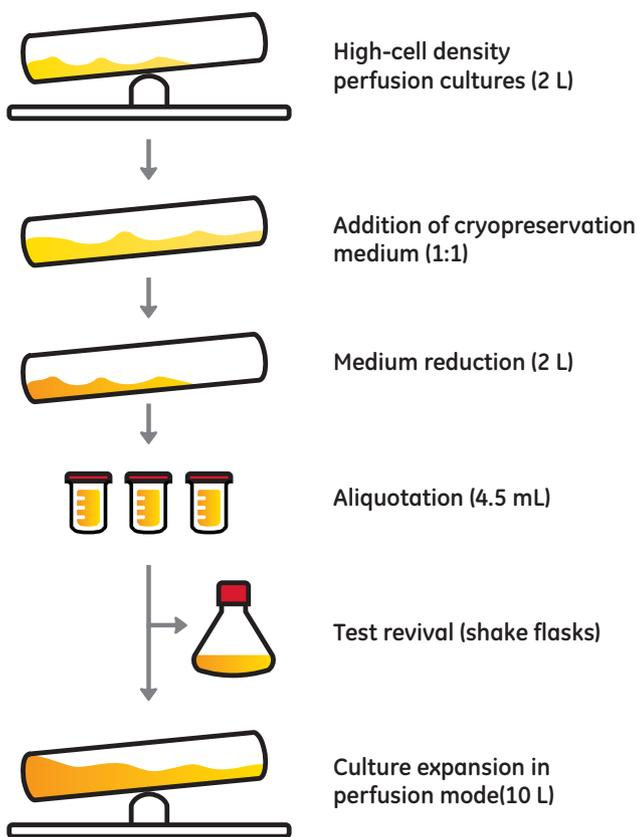

Fig 3. Overall experimental set-up.
The overall experimental set-up, including both cell bank and seed culture generation, is provided in Figure 2 and Figure 3. High-density cell banks were created from Chinese hamster ovary (CHO) DG44 cells* in ActiCHO™ P medium. CHO cells were grown in a disposable Cellbag™ using the ReadyToProcess WAVE 25 system in perfusion mode (1). Cells from one vial of the cryopreserved cell bank were recovered and directly transferred to a new 20 L Cellbag bioreactor at 1 L. The volume was stepwise expanded to a final working volume of 10 L, whereupon the culture was continued in perfusion mode. The target for the seed culture was 10 L with $> 50 \times 10^6$ viable cells/mL and $> 95\%$ viability.